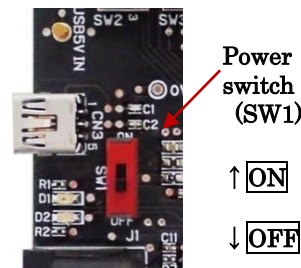

Figure 7 – Power Switch
- (1) Mount EM series evaluation modules and/or the CDM716x sensor module onto the EM7000 (see Sec. 3).
- (2) Connect an external 5.0VDC power supply to DC socket on EM7000.
- (3) Connect the EM7000 to the computer with a mini B-USB cable.
- (4) Turn on the power switch (SW1) on EM7000 (see Fig. 7).